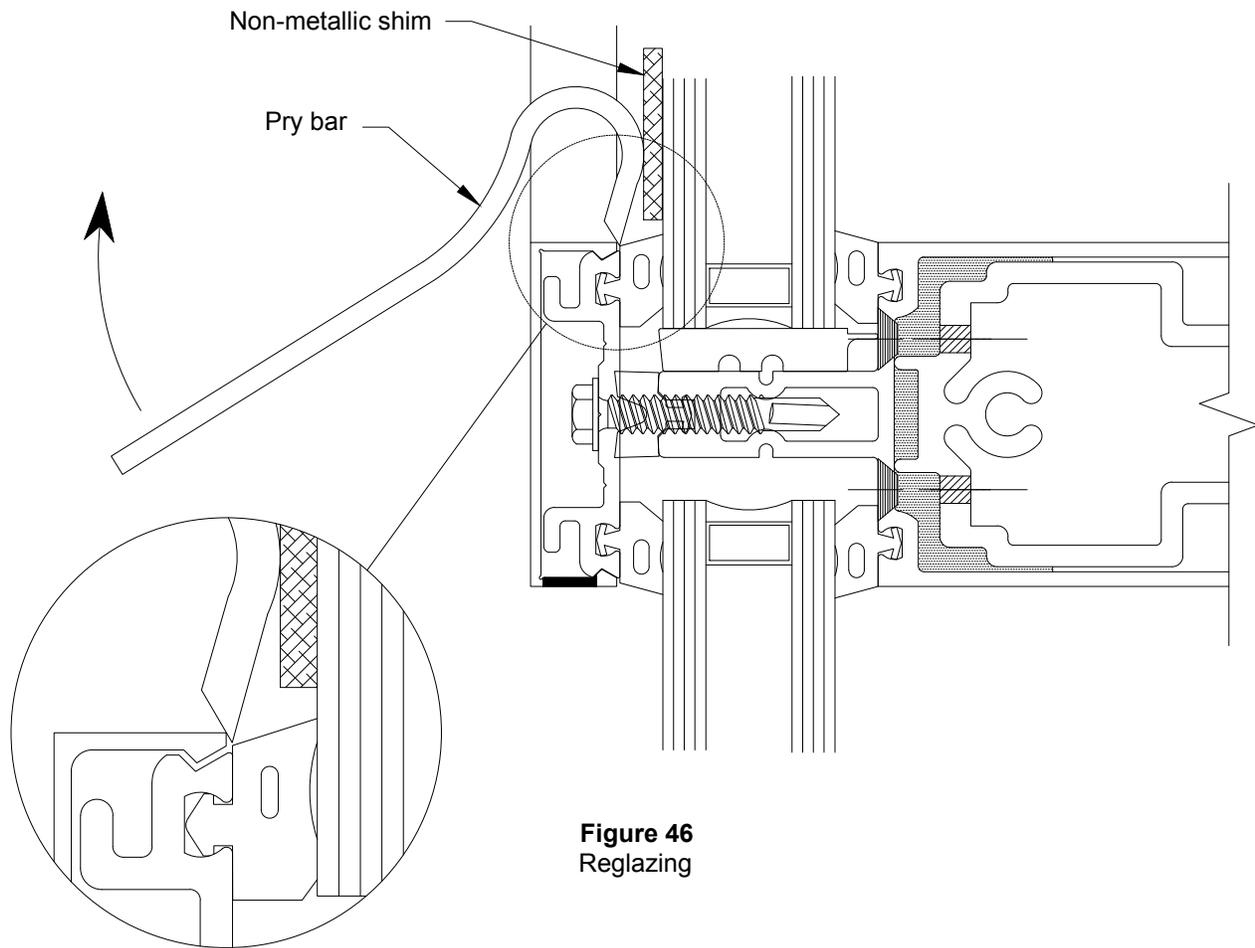

Figure 46
- E.1 Reglazing must be done from the exterior. Carefully remove face covers surrounding the lite of glass to be deglazed. **See FIGURE 46.**